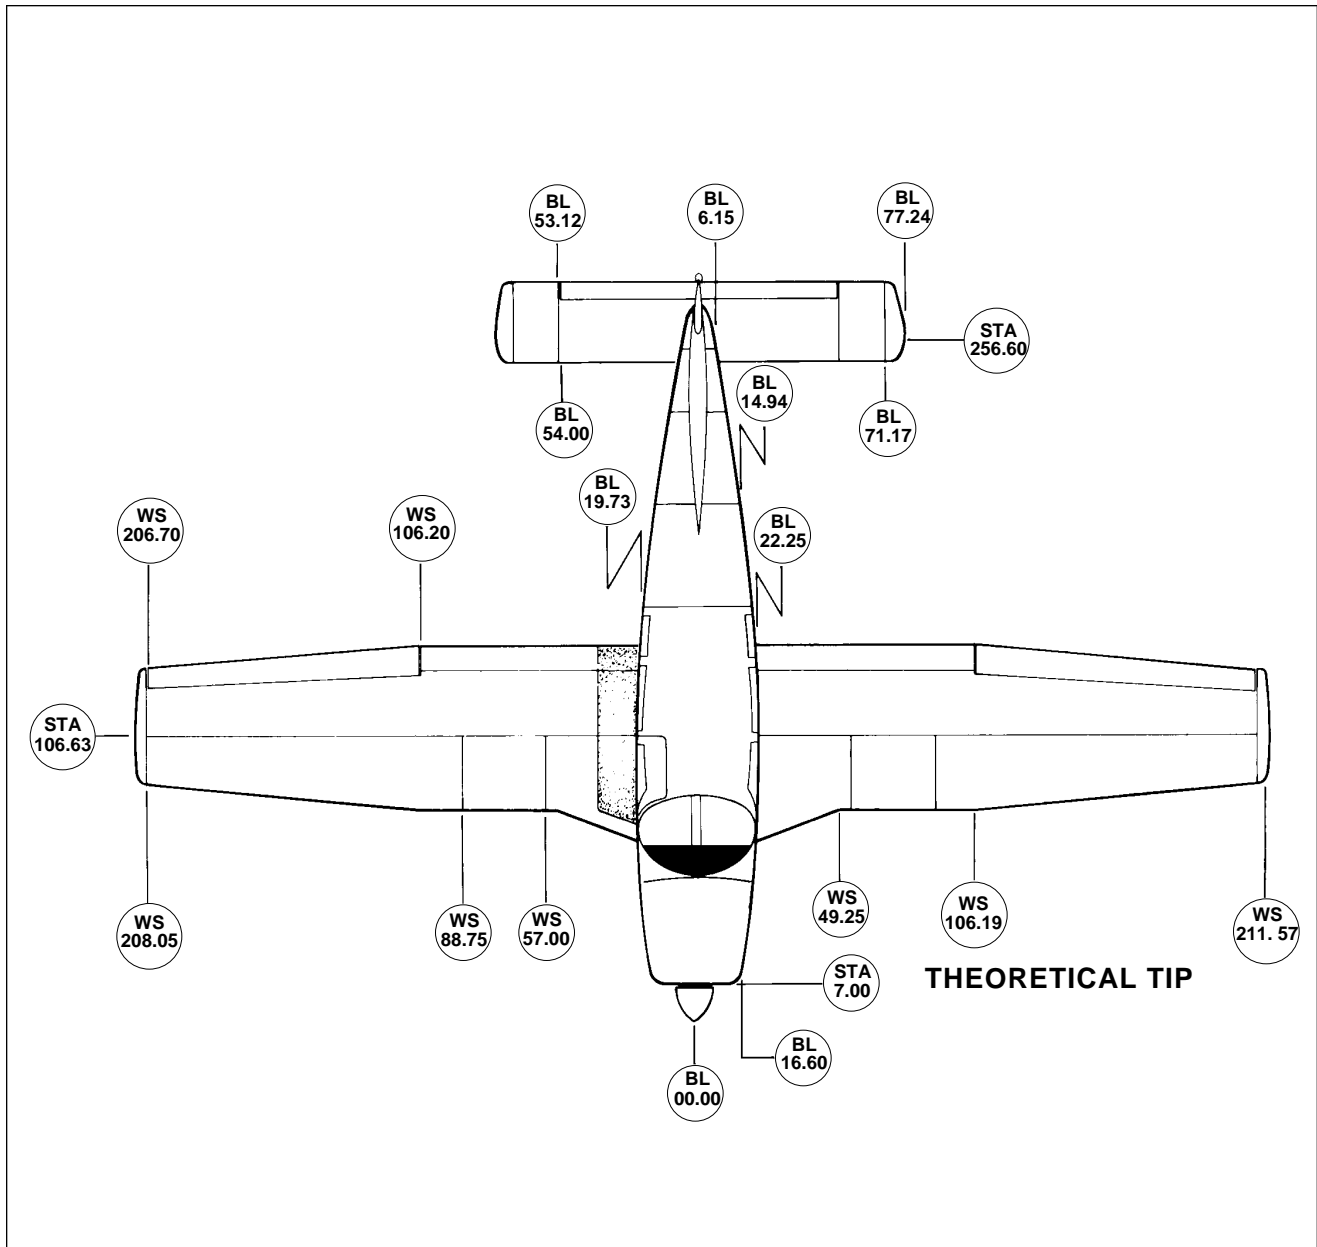

Figure 6-3. Station Reference Lines - Archer II (1 of 2)
Use the following location references to aid in maintenance and servicing the Archer II (refer to Figure 6-3). The fuselage station (Sta), wing station (WS), butt line (BL) and water line (WL) are reference points measured in inches laterally, horizontally or vertically from a given reference line, and show station locations of structural members. Fuselage station 0 is 78.4 inches ahead of wing leading edge at the intersection of the straight and tapered section. Butt line station 0 is the airplane centerline. WL station 0 is 20.5 inches below cabin floor measured at rear wing spar with airplane level.